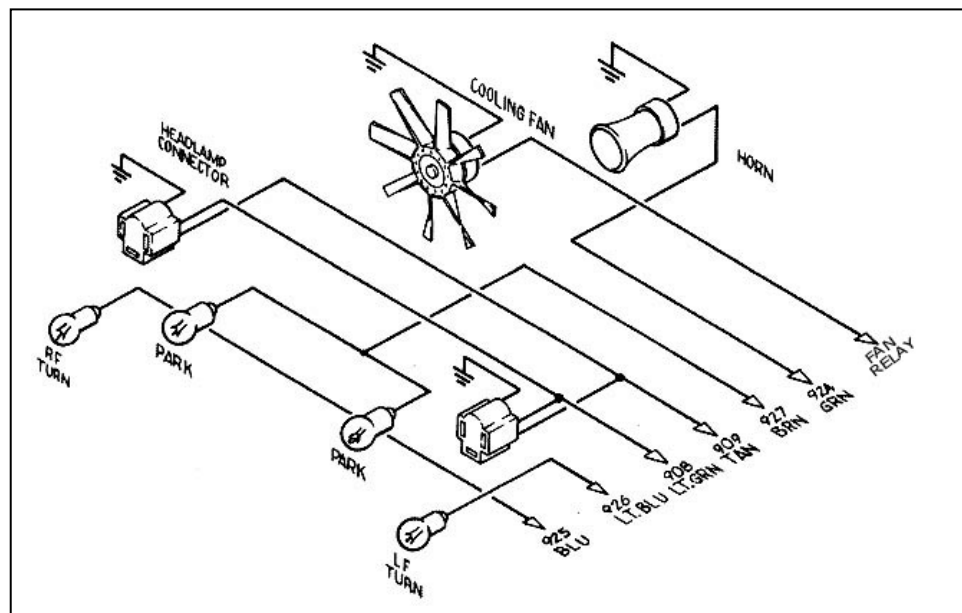

**Figure 7-6A** GM Ignition (Start-Run) System
## 7.6 GM Ignition (Start/Run) System. See Figure 7-6A.
**7.6.6** A 14-gauge wire connected from the Starter Solenoid Ignition (I) terminal to the ignition coil side of the Ballast Resistor is optional. This wire (the dashed line in **Figure 7-6A**) serves as a ballast resistor BYPASS during engine starting. However, if the starter solenoid shorts out, which is not unusual, the engine will stop running and will not restart as long as this wire is connected. You may therefore choose to omit it. If you are not using a Ballast Resistor, leave the Starter Solenoid Ignition (I) terminal unconnected and do not install the bypass wire.